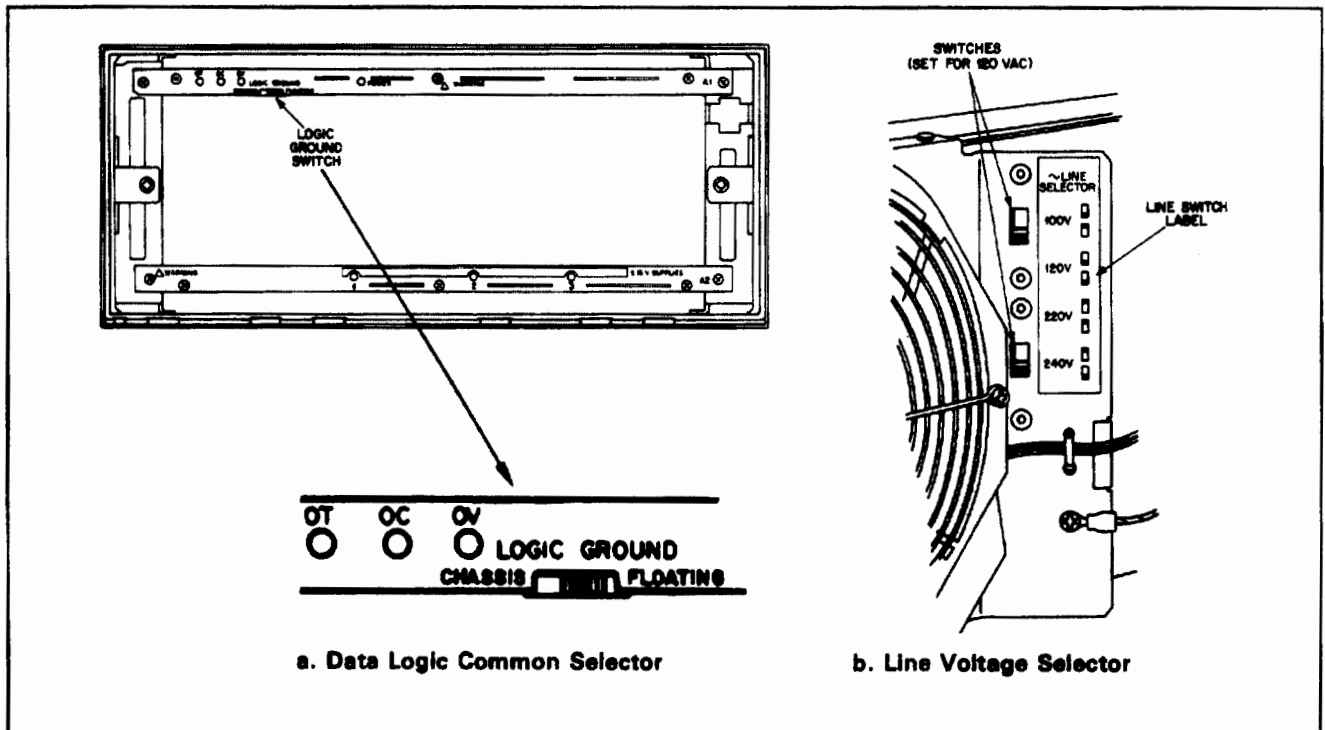

Figure 3-3. Location of Logic Ground and Line Voltage Switches.
A-C Line Voltage Selection. The mainframe is designed to accommodate mains voltages from 100 to 240 Vac. There are labels located adjacent to the a-c input socket (see Figure 3-3).
- Two line voltage select switches are located on the rear of the panel, just to the right of the fan (see Figure 3-3). A Line Selector chart next to the switches shows how to set them for 100 V, 120 V, 220 V, or 240 V nominal input. Set the switches to the proper voltage.
- The Logic Ground Switch is located at the upper-left side of the chassis (see Figure 3-3). Slide the switch to the desired position.
- b. **Logic Ground Switch.** Each extender unit is shipped with its Logic Ground switch set to the CHASSIS position. To help eliminate ground loops, it is highly recommended that your system have a single ground at the mainframe unit. Therefore, change the Logic Ground switch on each extender unit to the FLOATING position (see Figure 3-3).